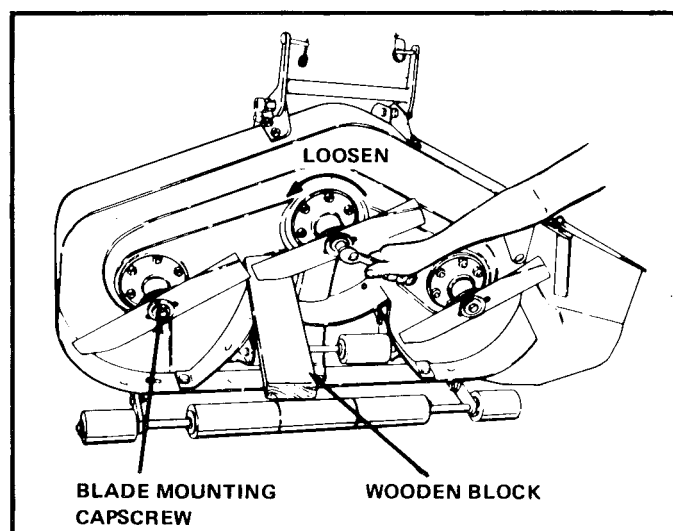

Figure 6. Loosen Blade (Typical Mower Shown)
3. To remove blade for sharpening, use wooden block to hold blade while removing its blade mounting capscrew (figure 6).